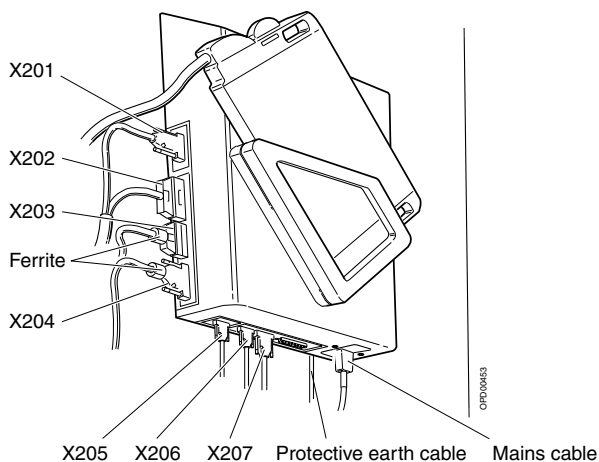
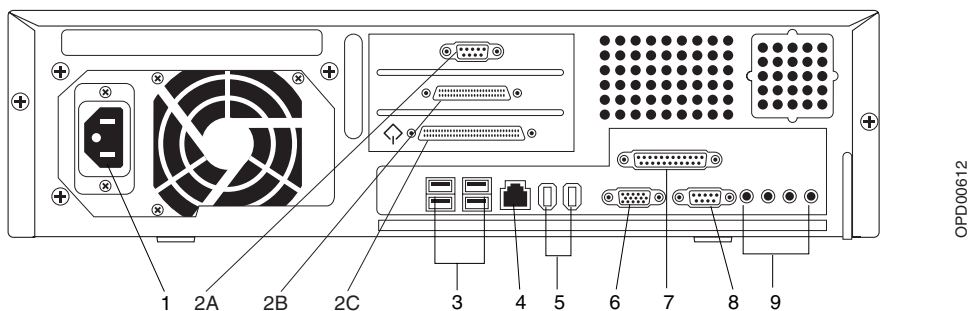

Fig. 9 Biopsy controller
Fig. 14 Back panel overview
1. Connect workstation cable marked X203 to the biopsy controller connector X203, see Fig. 9, and the other end (X101) of the cable to the workstation connector (2B/Fig. 14).
2. Attach ferrite on the cable on the biopsy controller side, see Fig. 9.
3. Connect the workstation cable marked X204 to the biopsy controller connector X204 in Fig. 9 and the other end of the cable to the workstation connector A (8/Fig. 14) and B (2A/Fig. 14).
4. Attach ferrite on the cable on the biopsy controller side, see Fig. 9.
6. Connect the MO unit SCSI cable to the workstation SCSI connector (2C/Fig. 14).
9. Connect keyboard and mouse (3/Fig. 14).
10. Connect monitor cable to the workstation connector (6/Fig. 14).
11. Connect Ethernet cable (4/Fig. 14).
1. Connect one end of the network cable to the workstation (2C/Fig. 14).